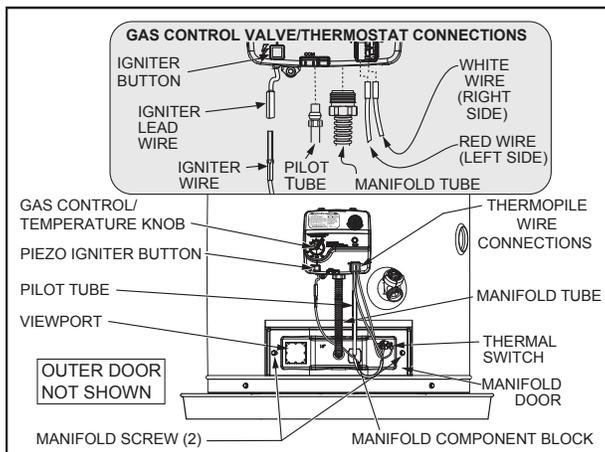

Figure 24: Front View of Water Heater
5. Remove the two screws securing the installed manifold assembly to the combustion chamber (Figure 24).
6. Disconnect the following from the gas control valve/thermostat: pilot tube, igniter wire, and manifold tube. See Figure 24.
7. Using needle nose pliers, disconnect the white and red thermopile connectors from the gas control valve/thermostat (Figure 24).
2. Inspect the view port for damage and replace as required (Figure 24, page 19).
5. Replace the two screws that secure the manifold assembly door to the combustion chamber, then tighten them securely (Figure 24, page 19). There should be no space between the gasket part of the manifold door and the combustion chamber. **IMPORTANT:** Do not operate the water heater if the door gasket does not create a seal between the manifold door and the combustion chamber.
6. Reconnect the manifold tube and pilot tube to the gas control valve/thermostat (Figure 24, page 19). Do not cross-thread or apply any thread sealant to the fittings. **IMPORTANT:** If you were supplied with a new ferrule nut in a parts kit, follow these steps to connect the pilot tube:
7. Connect the white and red thermopile wires to the gas control valve/thermostat. See Figure 24, page 19.